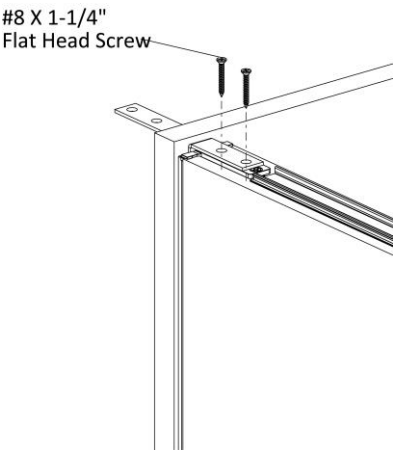

Figure 2
- 5. Drive two #8 X 1-1/4" Flat Head Screws through the holes in the gallery panel top bracket into the standard panel, (Figure 2).